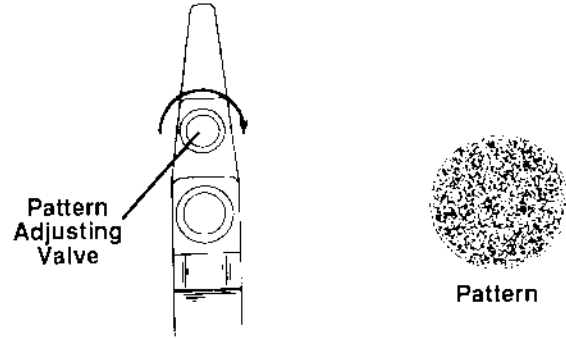

Figure 5. Round Pattern
1. When the pattern adjusting valve is closed (turned completely clockwise), a round pattern results (see figure 5).